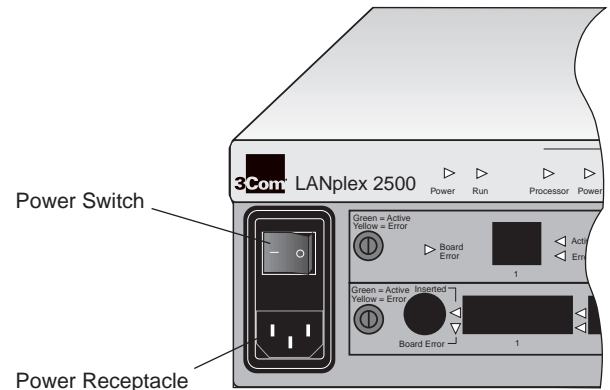

Figure 5-1 LANplex System Power Switch Assembly
- 2 Be sure that the system's power switch is off, and then plug the power cord into the system. See Figure 5-1 for the location of the power switch and power receptacle on the back panel.